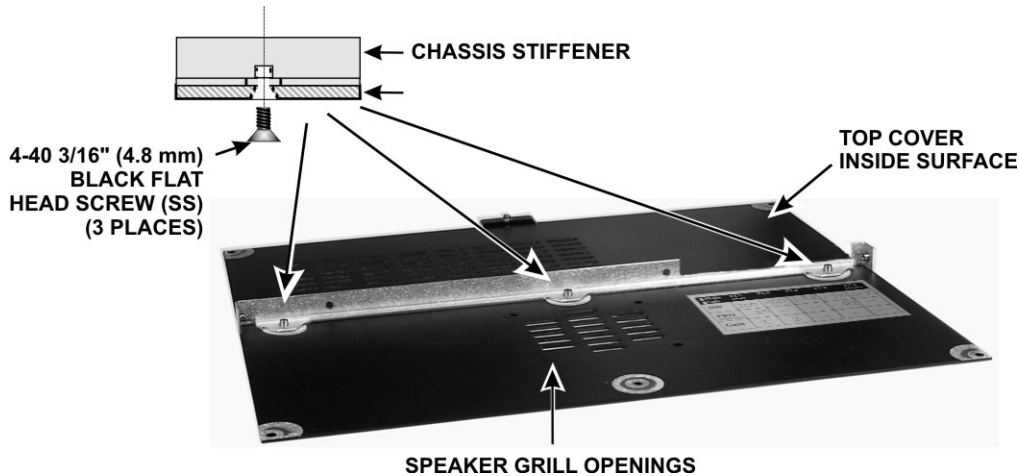

Figure 86. Attaching Chassis Stiffener to Top Cover.
- Mount the chassis stiffening bracket on the underside of the cover as shown in Figure 86. Do not use washers.